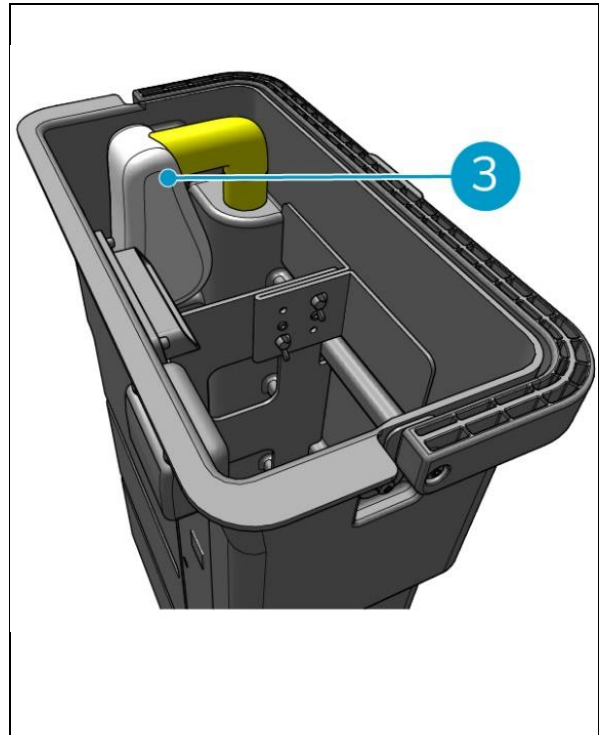

Figure 32
9. Loosen the filter bag's pull rope (Figure 32, pos. 3).